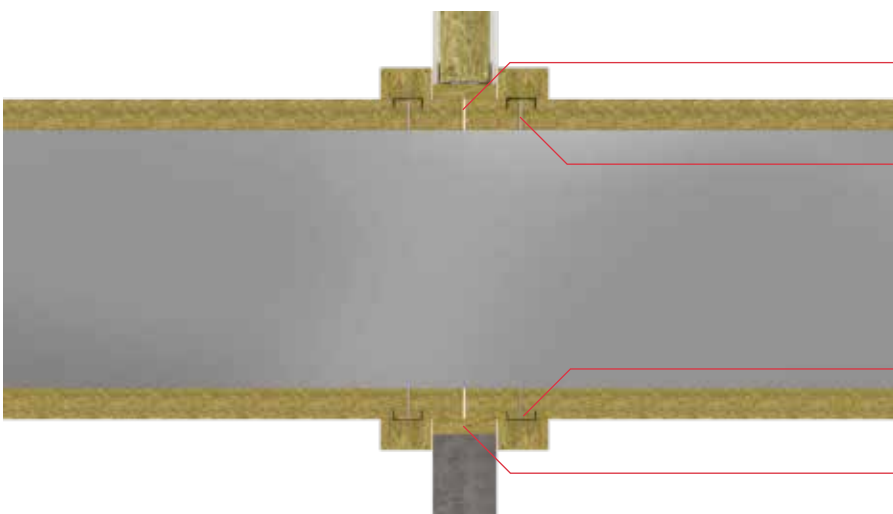

Figure 10
1. A joint in the Conlit Ductboard Slab must be accommodated at the centre point of the aperture, as shown in Figure 10.
4. Before applying the u-profile to the Conlit Ductboard Slab slits must be cut into the insulation to allow the profile sides to penetrate the insulation (Figure 10). The u-profile can be attached to the ductwork using 100mm self-tapping screws. 4No to the top and bottom slabs and 2No to the vertical slabs.